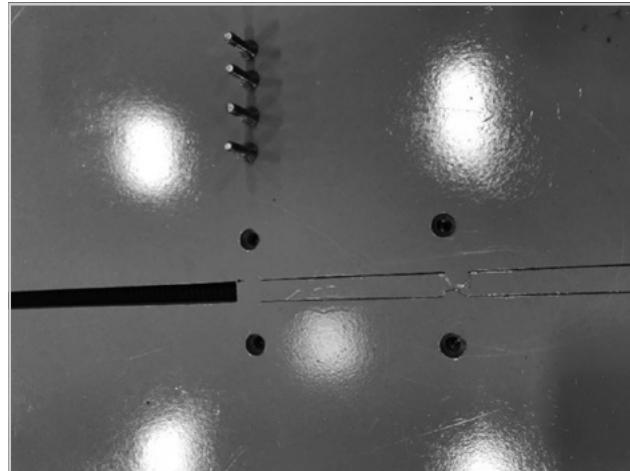

Figure 78
8. Remove motor mounting screws on the opposite end of the table (Figure 78)